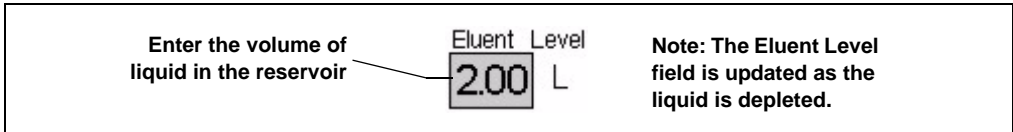

Figure 3-5. Home Page: Setting the Eluent Level
- On the **HOME** page in the **Eluent Level** field (see Figure 3-5)